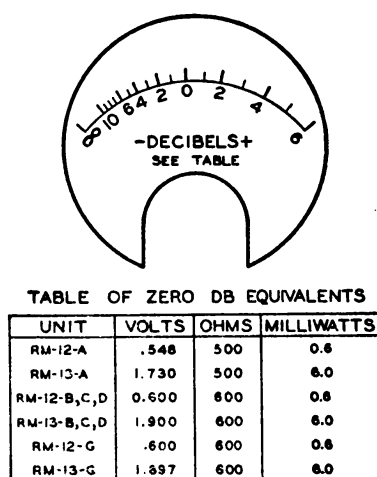

Fig. 13—Volume Indicator Meter Dial—Control Units RM-12-(*) and RM-13-(*)
e. Volume indicator meter 207 shows the audio level or signal strength received over the line. It is a standard meter having a -10 to $+6$ db scale with zero level at midscale. The meter is calibrated on the basis of .0006 watts into 600 ohms or .600 volts at midscale (See Fig. 13).
(1) For Control Units RM-13-B, RM-13-C, and RM-13-D the filter consists of resistors 331 and 335, capacitors 322 and 324 and choke 341.
(2) For Control Unit RM-13-G, resistor 334, capacitors 322 and 324 and chokes 331 and 341 are used.
p. Resistor 327 provides bias voltage to the cathode of tube (338).
r. Meter 337 indicates the audio level being transmitted over the line. The meter is calibrated on the basis of .006 watt into 600 ohms or 1.9 volts midscale (See Fig. 13).